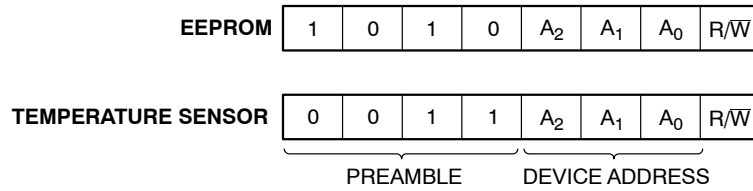

Figure 21. Slave Address Bits
The Master initiates data transfer by creating a START condition on the bus. The Master then broadcasts an 8-bit serial Slave address. The first 4 bits of the Slave address (the preamble) select either the Temperature Sensor (TS) registers (0011) or the EEPROM memory contents (1010), as shown in Figure 21. The next 3 bits, A2, A1 and A0, select one of 8 possible Slave devices. The last bit, R/\overline{W} , specifies whether a Read (1) or Write (0) operation is being performed.